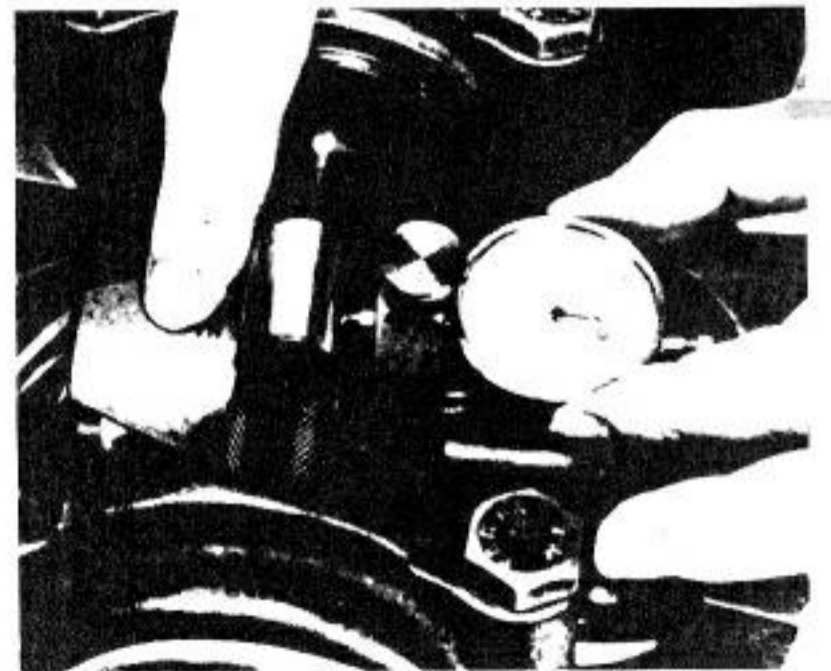

Fig. 11-30. Mandrel and dial gauge measuring pinion position. Gauge pin rests on mandrel while gauge holder is pressed lightly against pinion.
3. Set the dial gauge holder on the pinion shaft and press the holder snugly against the end face of the pinion. (See Fig. 11-30.) Carefully move the holder until the dial gauge pin rests on the highest point of the polished cylindrical section of the mandrel. Take the reading at that point.